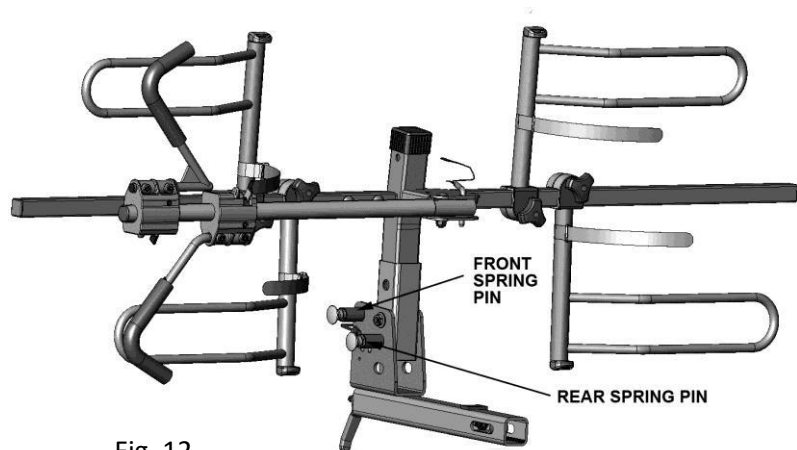

Fig. 12
Per Fig. 5, remove the L pin (K) and rotate the vertical post to its folded position. Reinsert the L pin. Next, retract or pull back the front spring pin per Fig. 12 and rotate the rack towards the rear of the car until it "clicks" into the folded position. To return the rack to its "in use" position, retract the rear spring pin and gently lower the rack until it "clicks" into its in use position.